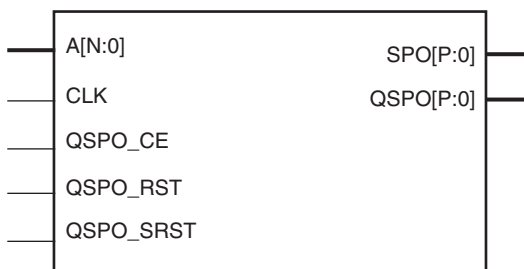
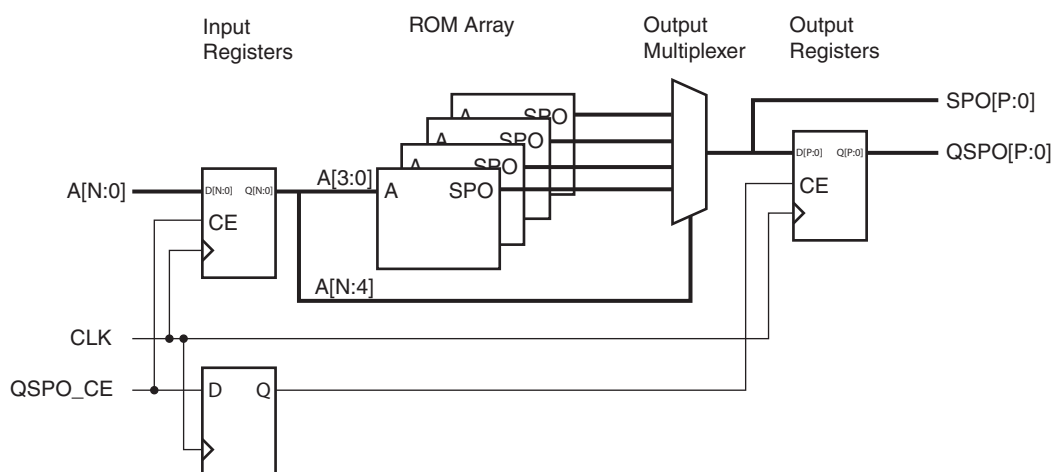

Figure 1: Distributed ROM Schematic Symbol
Figure 2: Distributed ROM Module Schematic
To create the distributed ROM, the core parses the initialization data provided by the user-supplied COE file. From that data, any necessary logic or optional registering is inferred and created. Figure 1 shows the distributed ROM schematic symbol, and Figure 2 illustrates one of the possible implementations of a distributed ROM core. For distributed ROM timing information, see the user guide for the specific FPGA family-related architecture.
- **ROM.** Figure 2 is a schematic of the structure of the ROM modules. The address register is optional (controlled by the setting of the Input Options parameter). Output registering is also optional (controlled by the setting of the Output Options parameter). Note that the clock is not required when these registers are not present. The resets and clock enables are optional.